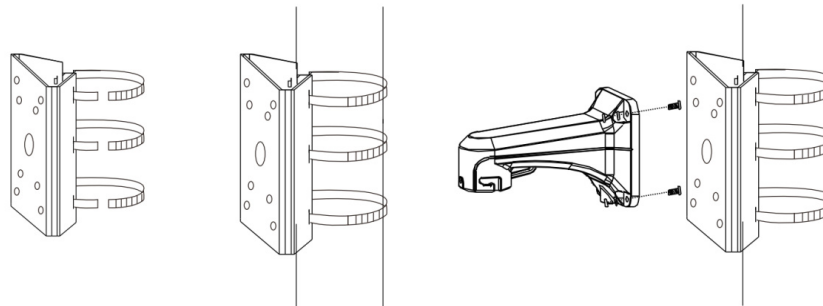

Figure 1-3-11
(1) Accessories: PTZ camera wall-mounted bracket (load-bearing 10kg); steel plate with U-shaped slot (load-bearing 60kg); hose clamp.
(2) Install the column assembly.
- a. As shown in Figure 1-3-11, use the hose clamp to pass through the reserved hole on the back of the [steel plate with U-shaped slot], surround the cylinder, and insert the end without locking nut into the other end.